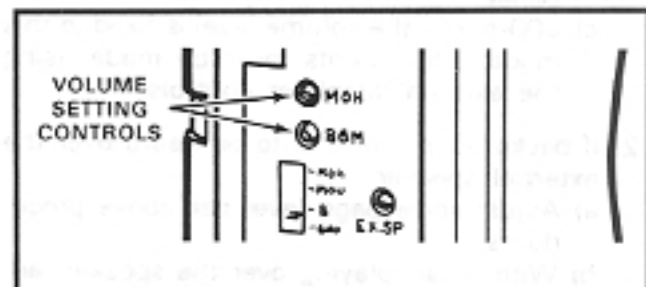

FIGURE 50—VOLUME SETTING CONTROLS
10.71 Refer to Figure 50 and adjust the volume for MOH, BGM and External Page in the sequence outlined in Paragraph 08.92.